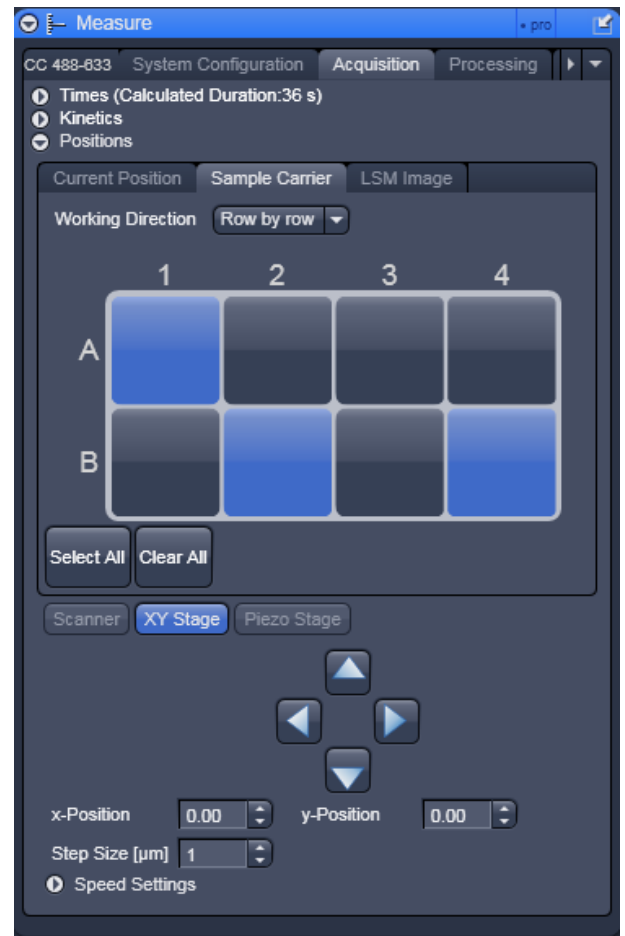

Fig. 45 Sample Carrier panel
- Orient a carrier in the **Carrier Position** tool. This will display the carrier (see Fig. 45). The current selected well will be highlighted in blue.
- Click on the **Sample Carrier** tab to open the **Sample Carrier** panel (Fig. 45).